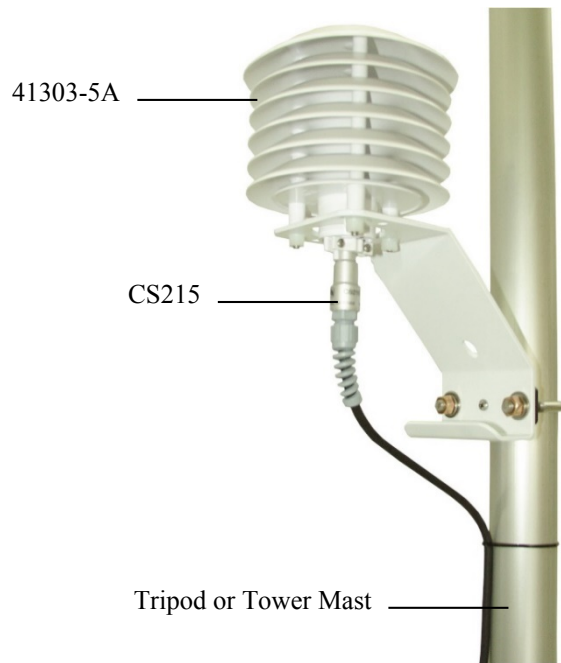
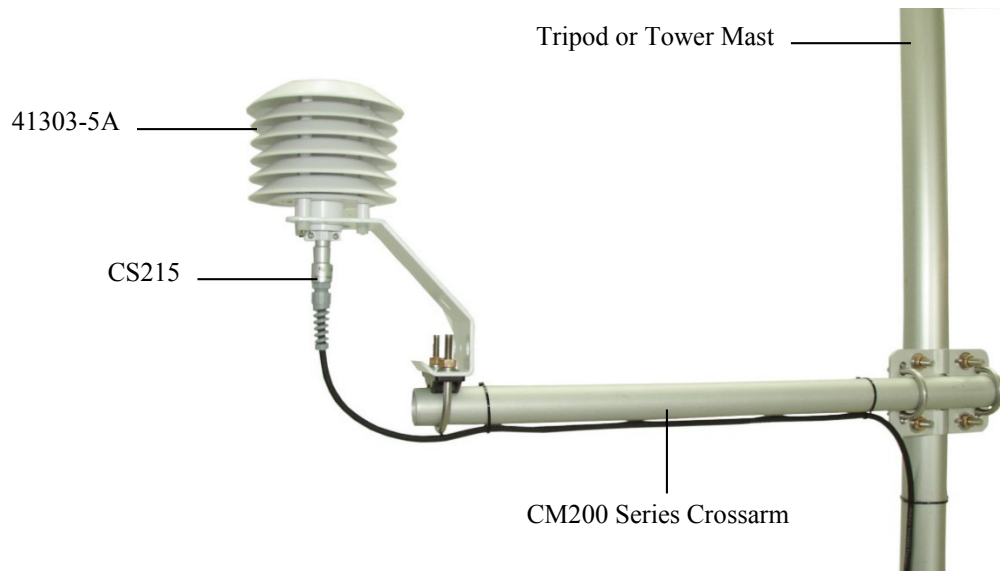

FIGURE 7-1. CS215 and 41303-5A Radiation Shield on a tripod mast
FIGURE 7-2. CS215 and 41303-5A Radiation Shield on a CM200 Series Crossarm
5. Attach the radiation shield to the tripod mast, crossarm, or tower leg using the supplied U-bolt. See FIGURE 7-1 and FIGURE 7-2 for examples of shield mounting.